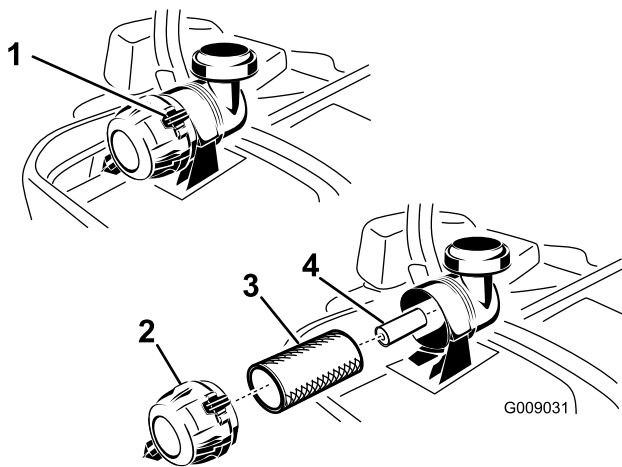

Figure 46
3. Push down to release the retaining clamps on the air cleaner, and pull the air-cleaner cover off the air-cleaner body (Figure 46).
5. Gently slide the primary filter out of the air-cleaner body (Figure 46). Avoid knocking the filter into the side of the body.
1. Do not clean the paper filter, replace it (Figure 46).
2. If the secondary filter is being replaced, carefully slide it into the filter body (Figure 46).
3. Carefully slide the primary filter over the secondary filter (Figure 46).
5. Install the air-cleaner cover with the breather cap down, and rotate so that the retaining clamps lock the cover in place (Figure 46).